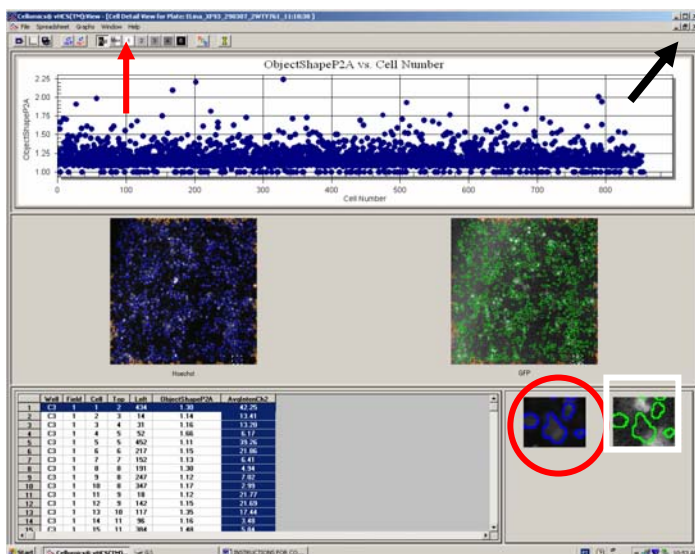
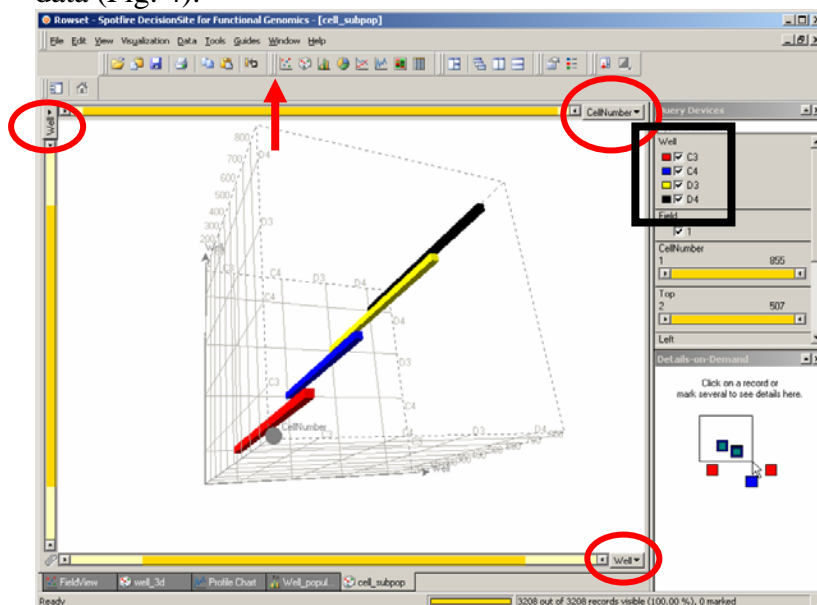
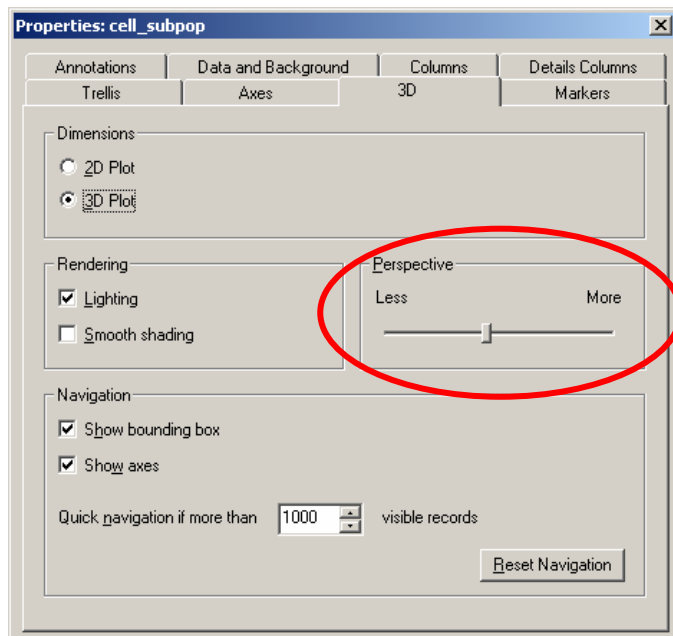

Figure 3. Cell detail window
Figure 4. Spotfire cell_subpop window.
Figure 5. Properties/3D window.
4. In the new window, there is a graph showing the number designated for each selected cell versus its average intensity in channel 2 (Fig. 3). Are there any outliers
6. Scroll down until you reach the average intensity value that matches the threshold value you used for “AvgIntenLevelHighCh2” in course work 7. Select a cell (by clicking on it) that has an intensity value matching the threshold value. The software will show you the images of that cell on the right for channels 1 (red circle in Fig. 3) and 2 (white square in Fig. 3). The cell in question is always in the center of the image. Does the cell look positive or negative?
7. The screen displays only 255 different gray-scale values (8-bit), whereas the camera used can record 4095 gray-scale values (12-bit). Although you cannot see all the 4095 different gray-scale values at the same time on the screen, you can inspect a limited range of them; if you press button marked 1 on the top panel (red arrow in Fig. 3), you will see values 0-255 out of the 4095. If the image looks too dark or too bright, select the next range by pressing button 2 (bits 2-9). In this way, you can look at the raw data without any scaling transformations. If you want to look at the images converted into an 8-bit scale (this is the default setting), click Full button.
9. Close the cell detail window by clicking on the lower x-button in the top right corner of the window (black arrow in Fig. 3). You should be back in the well detail window. In the main menu, select Spreadsheet/Spotfire IT. In the new window, select ObjectShapePA2 and click ok. Wait until the Spotfire software opens, showing your data (Fig. 4).
10. Select cell_subpop in the bottom menu. Select the x, y, and z axes (red circles in Fig. 4) so that one of them will be well, one cell number, and one ObjectShapeP2A (click on the axis button, and make your selection in the pop-up menu). Try different ways of defining the axes. You can change the perspective angle by moving the mouse over the graph and right-clicking. Then select Properties in the pop-up menu, and click on the 3D tab (Fig. 5). Dragging the Perspective slider (red oval in Fig. 5) will change the viewing angle. When done, close the window by clicking on the x button in the top right corner of the window.
Are there any differences in roundness when you compare the non-transfected and transfected cells? Try to use the software for the analysis of possible correlation between the shape and intensity of each cell. Do you find any? You can also select just one well for the analysis by unmarking the others in the well list (black square in Fig. 4). Also, you can use other visualization tools such as scatter plot (red arrow in Fig. 4).